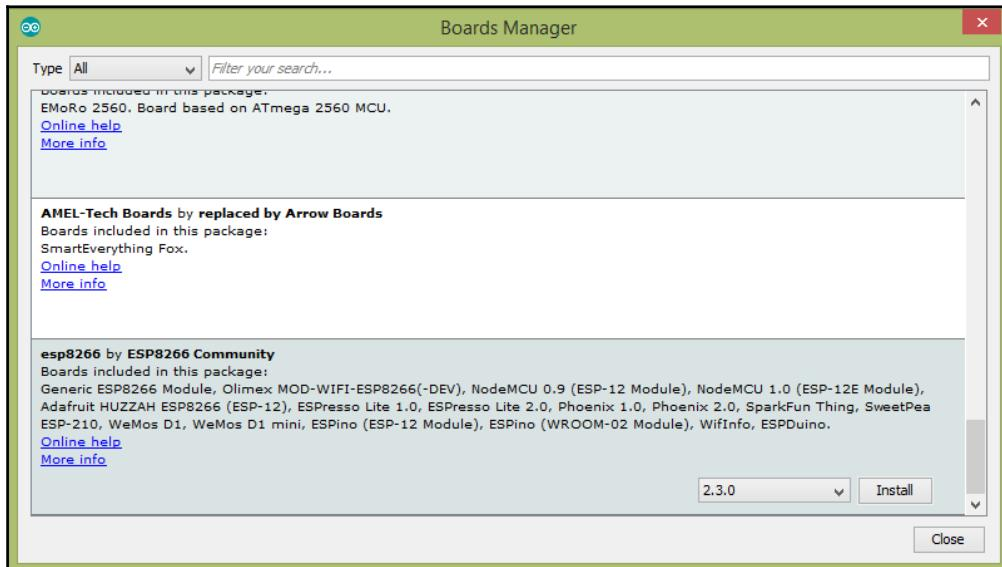

Figure 1.10: The Arduino IDE Boards Manager
3. Open the **Boards Manager** by selecting **Tools | Board | Boards Manager**. You should see a new entry in the list titled **esp8266 by ESP8266 Community** (*Figure 1.10*):